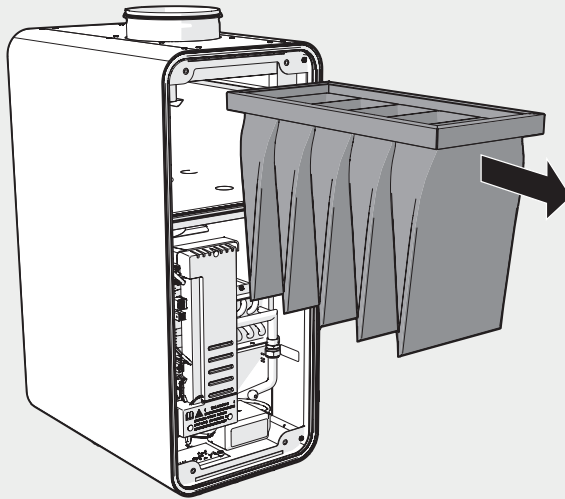

Figure 24 Removing the filter.
5. Pull the filter out of the housing (Figure 24).